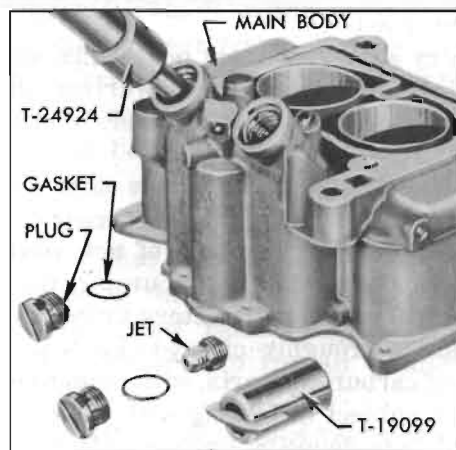

Figure 3-72—Removing Plug and Main Metering Jet
13. Remove main discharge jet plugs using Screw Driver T-19099, remove copper gaskets, then remove main metering jets using Jet Socket T-24924. See figure 3-72.
8. Install main metering jets, using Jet Socket T-24924. Install main discharge jet plugs, using new copper plug gaskets if available; otherwise make sure that plugs and seats are clean to insure tight joint. Tighten plugs with screw driver T-19099. See figure 3-72.